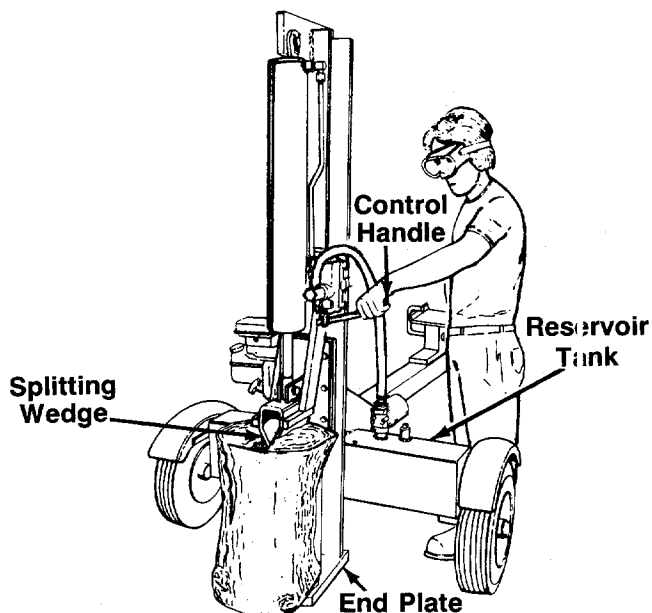

FIGURE 14.—Vertical Position
Use the log splitter only on a level, hard surface. Never stand next to the splitting wedge when operating the log splitter. Always stand behind the reservoir tank. See figures 14 and 15. Never attempt to cut a log in half sideways. Always split the log lengthwise. Maximum length of log to be split is 24". If all logs are of a smaller length, refer to "Log Dislodger" in Adjustment Section (Model 424/LC:D/22 Only).
4. **Step behind the reservoir tank** (see figures 14 or 15) and push the control handle in forward position until the log is split.